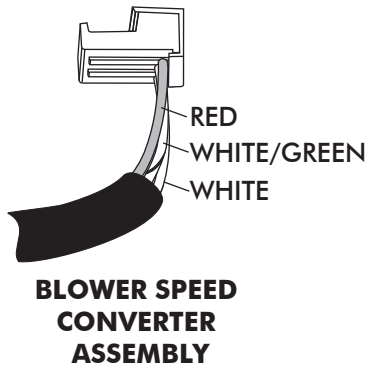

FIGURE 7a
- LOCATE THE CONTROL PANEL WIRING HARNESS, AND PLUG THE CORRESPONDING CONNECTOR INTO THE CORRECT CABLE CONVERTER ASSEMBLY AS SHOWN IN FIGURE 7a, BELOW.